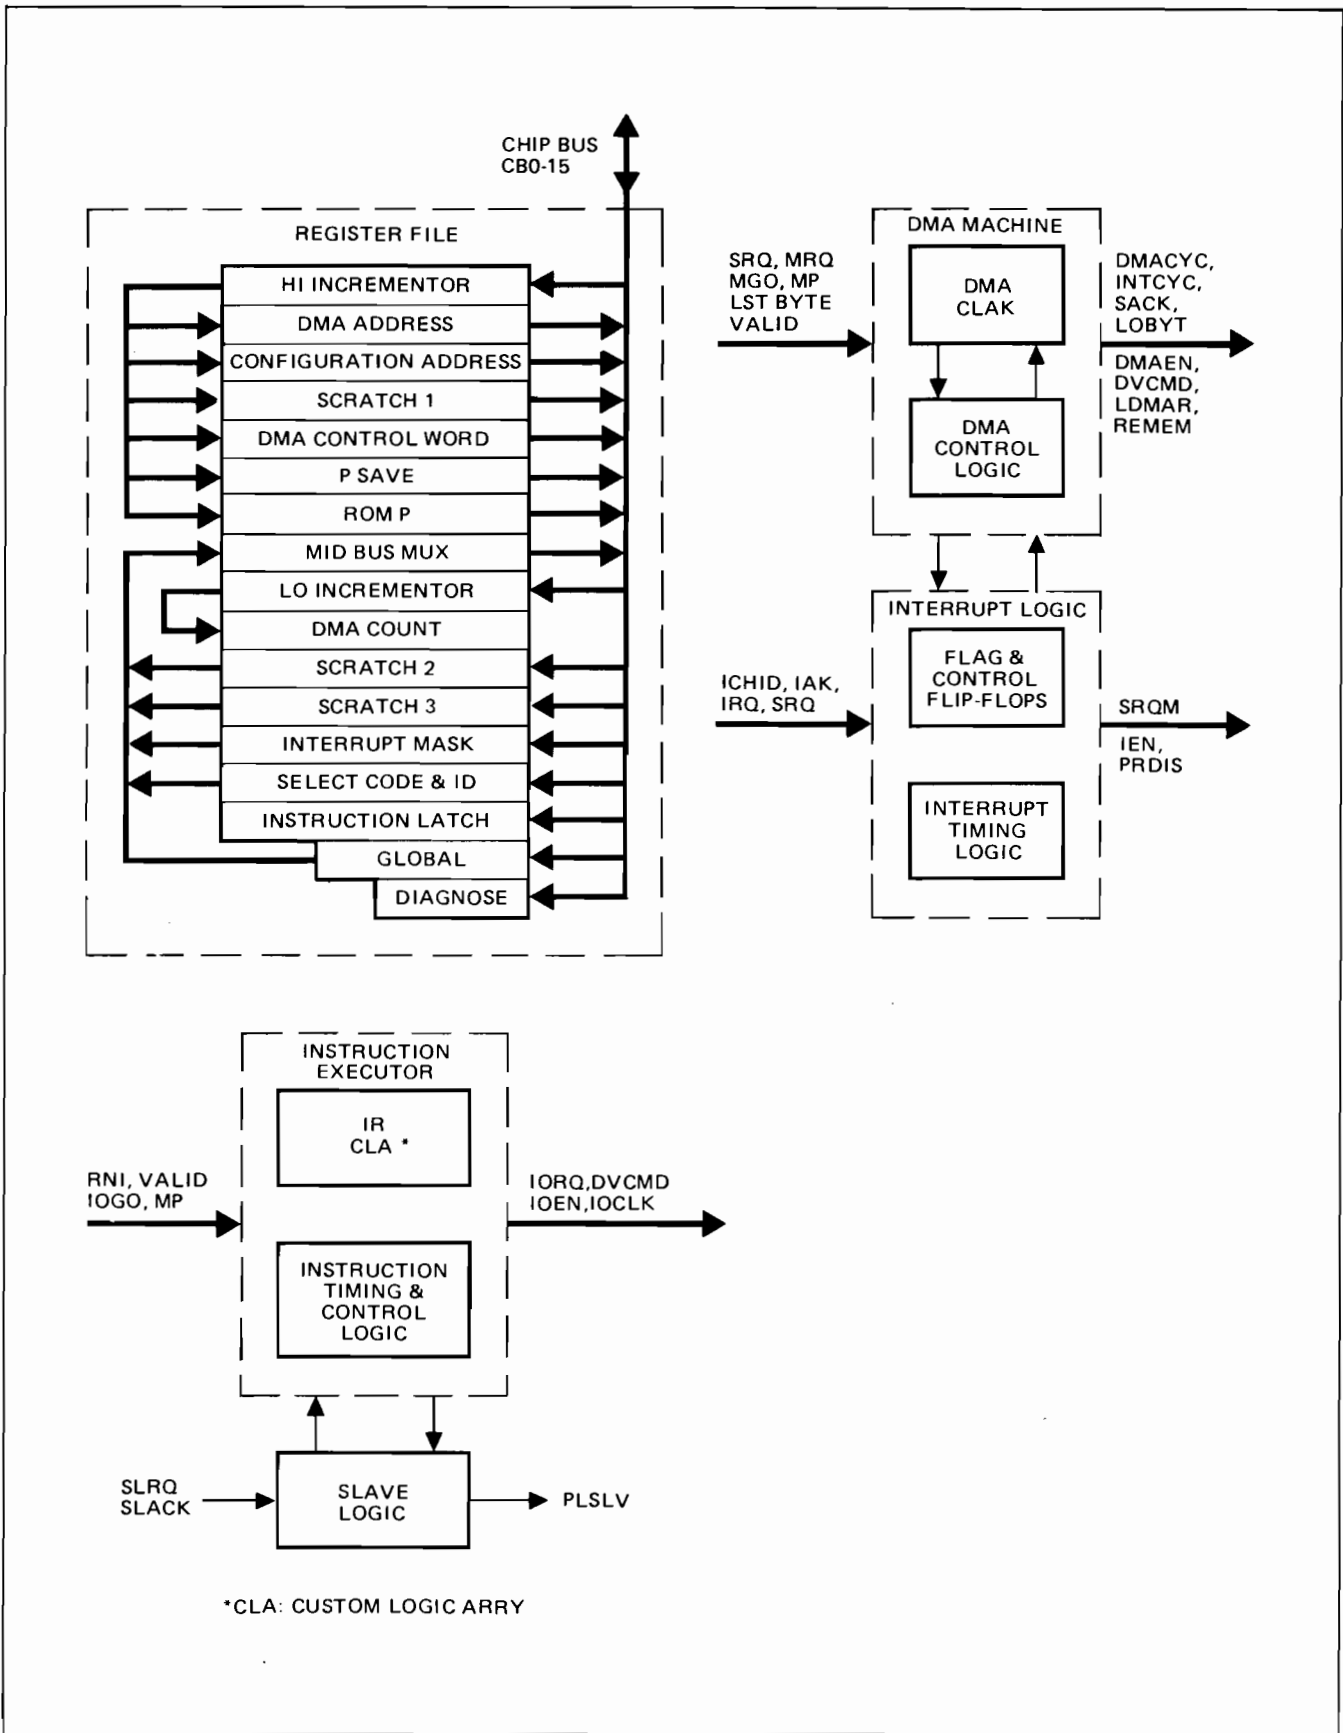

Figure 3-1. IOP (U67) Chip Block Diagram
The PROM Storage Module is comprised of two sections: an I/O Master Section and a PROM Interface Section. The I/O Master Section performs all of the I/O processing functions for the computer. These functions include I/O instruction recognition and execution, and direct memory accessing (DMA). The I/O Master consists of the I/O Processor (IOP) Chip and its associated logic circuitry. The Global Register (GR) is located in the I/O Processor Chip and is a six-bit register that contains a select code. See Figure 3-1 for a block diagram of the I/O Processor Chip (U67).